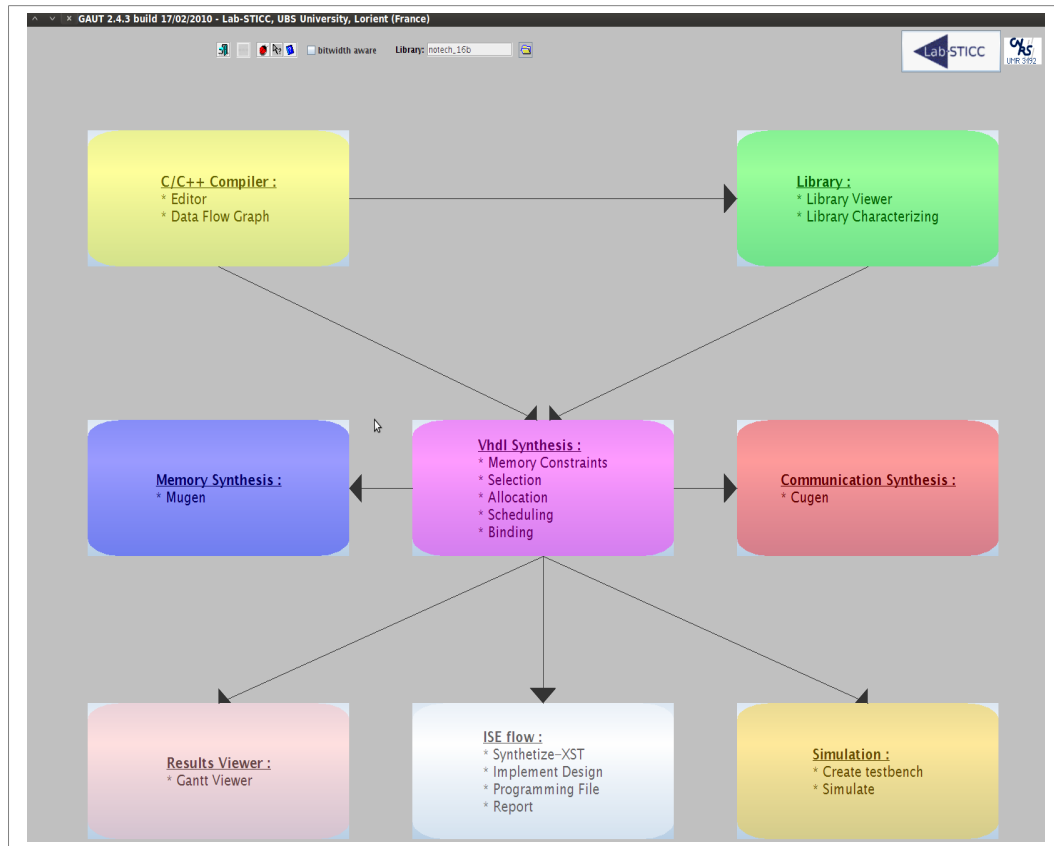

Figure 7 : G.A.U.T. Main Window
Figure 7 shows the main interface of the tool with eight colored boxes. Every box has a specific purpose and will be described briefly later.
- Click on the ☐ button and you will come back to the main window as shown in the Figure 7.